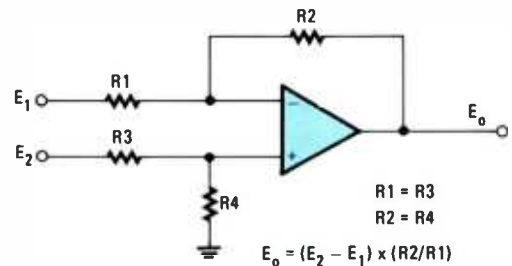

Fig. 8—A differential amplifier algebraically sums the two input signals and provides voltage amplification.
21. (2) Most op-amps have a differential input. When signals are applied to both inputs the output is the difference between the two. Resistors can be connected to the op-amp to set the gains of the inputs. A typical arrangement is shown in Fig. 8. If all resistors are made equal in value, the output ( $E_o$ )